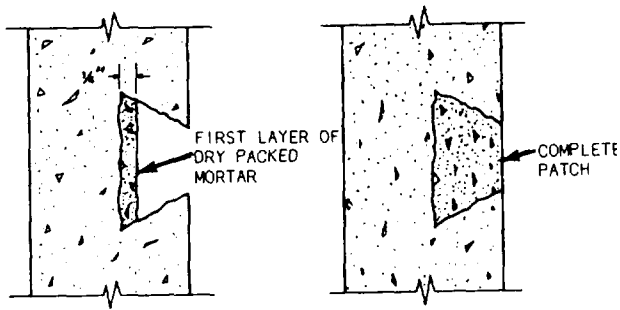

Figure 7-55.-Repairing concrete with dry-packed mortar.
**ROCK POCKETS.**— Rock pockets should be completely chipped out. The chipped out hole should have sharp edges and be so shaped that the grout patch will be keyed in place (figure 7-55). The surface of all holes that are to be patched should be kept moist for several hours before applying the grout. Grout should be placed in these holes in layers not over 1/4 inch thick and be well compacted. The grout should be allowed to set as long as possible before being used to reduce the amount of shrinkage and to make a better patch. Each layer should be scratched rough to improve the bond with the succeeding layer and the last layer smoothed to match the adjacent surface.